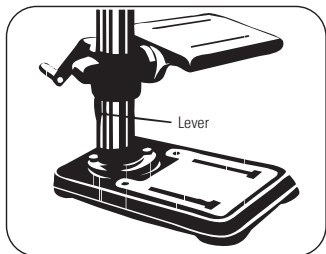

FIGURE 8.11
- Tighten the Table Clamp Lever (Figure 8.11).